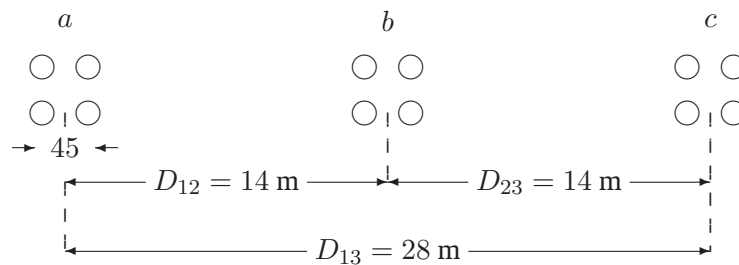

FIGURE 41
4.10. A single-circuit three-phase transmission transposed line is composed of four ACSR 1,272,000 cmil conductor per phase with horizontal configuration as shown in Figure 41. The bundle spacing is 45 cm. The conductor code name is *pheasant*. In *MATLAB*, use command **acsr** to find the conductor diameter and its *GMR*. Determine the inductance and capacitance per phase per kilometer of the line. Use function **[GMD, GMRL, GMRC] = gmd**, (4.58) and (4.92) in *MATLAB* to verify your results.